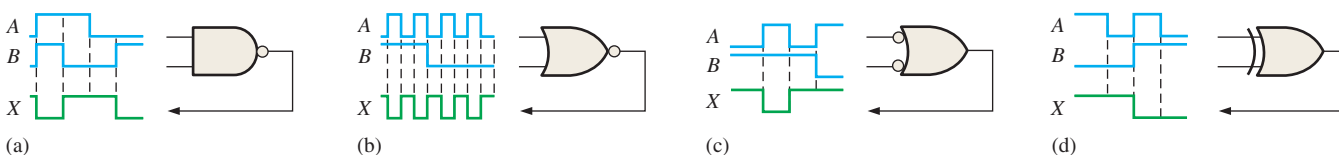

FIGURE 3-93
40. Determine the faulty gates in Figure 3-93 by analyzing the timing diagrams.